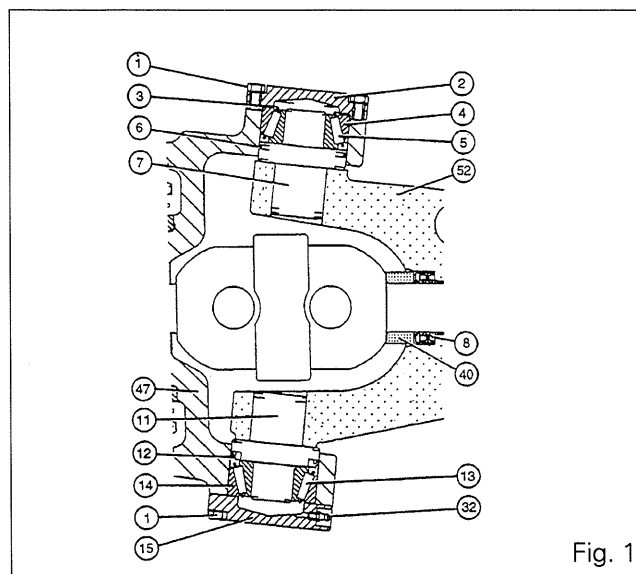

Fig. 1
#### Removal of swivel housings (Figures 1 and 2)
8. If necessary, remove the seals (8) and O-rings (40) (Fig. 1).